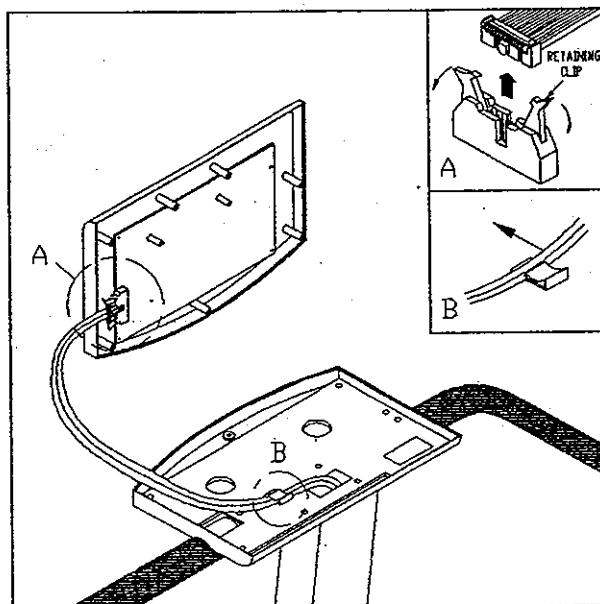

Fig. 2
2. Remove the electronics package, releasing the 16 pin cable connector (A) from its socket in the electronics package.
NOTE: First pull back the retaining clips to release pressure. Then, remove the cable from the cable clip (B) located on the base of the electronics package (see Fig. 2).